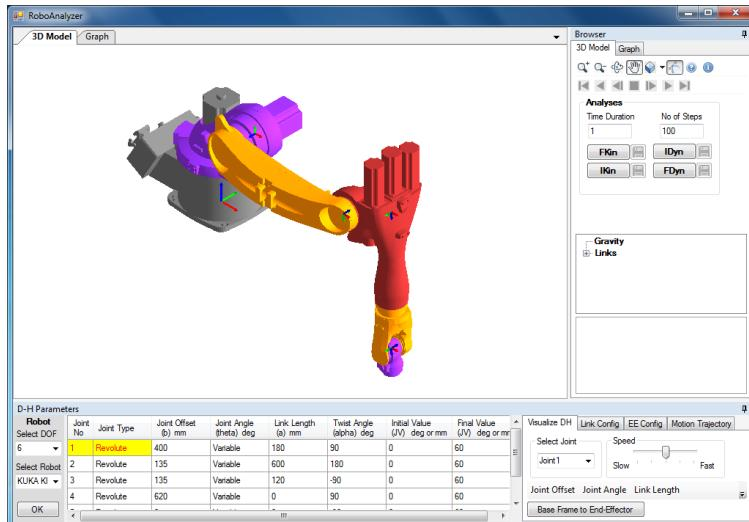

Figure2: 3D CAD Model of Industrial Robot
After selecting a robot model, users can modify the Denavit-Hartenberg (DH) parameters shown in the tabular form and the robot model updates automatically. A few industrial robots are also listed, when selected shows a 3D CAD model of the robot (Figure 2).